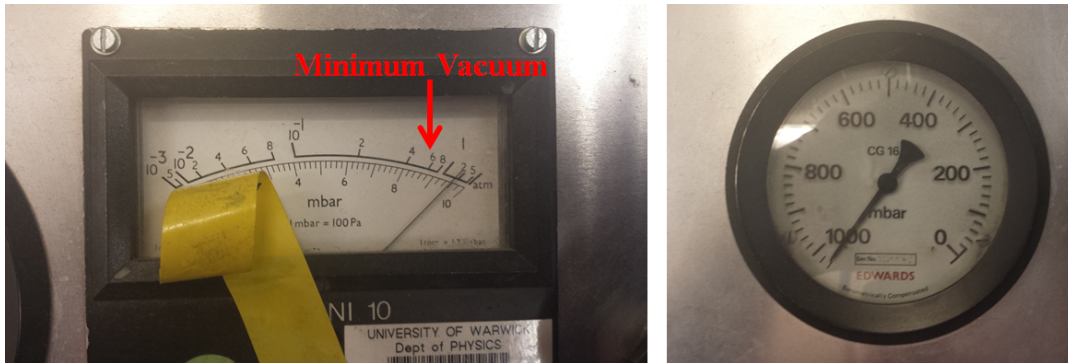

Figure 4: The two vacuum gauges.
Step 5: Check the butterfly nuts are still finger tight and place support under the copper crucible to ensure it does not fall out. You will now have to wait for a good vacuum. Fig. 4 shows the minimum value you should aim for (using top scale). Pump for about 3-5 minutes to make sure you have a reasonable vacuum as well.